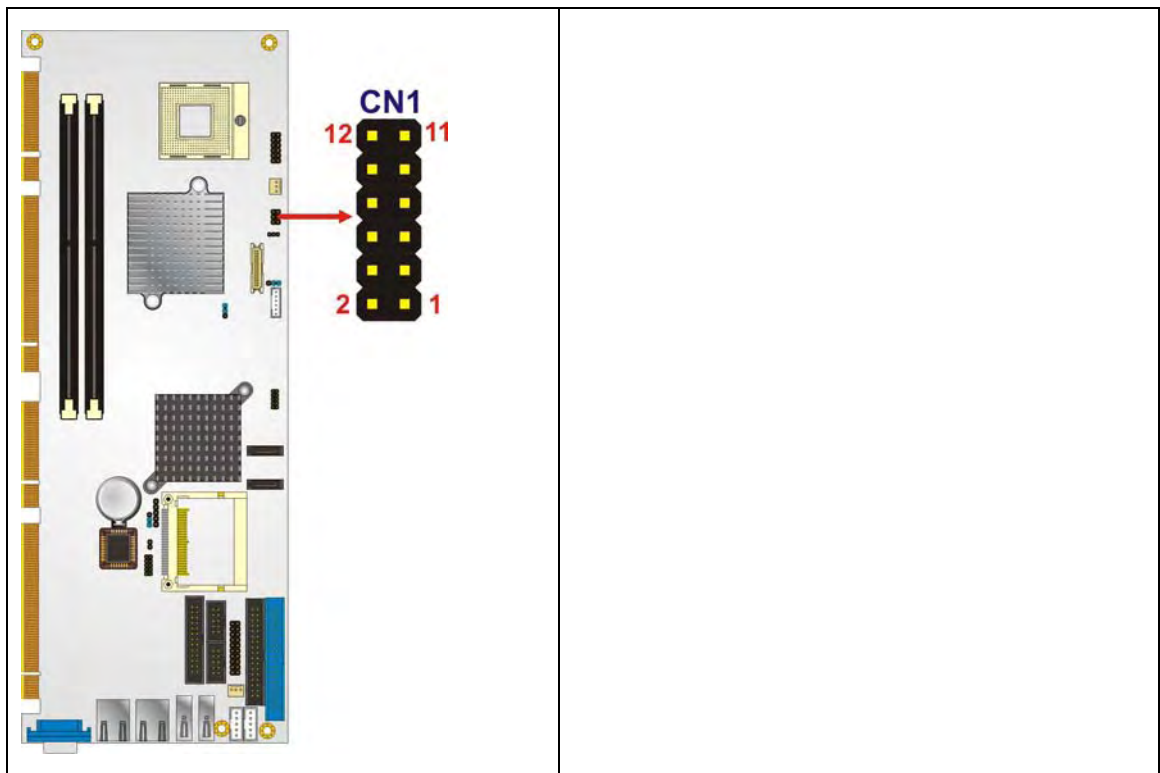

Figure 4-8: Front Panel Connector Pinout Locations
- CN Location:** See Figure 4-8